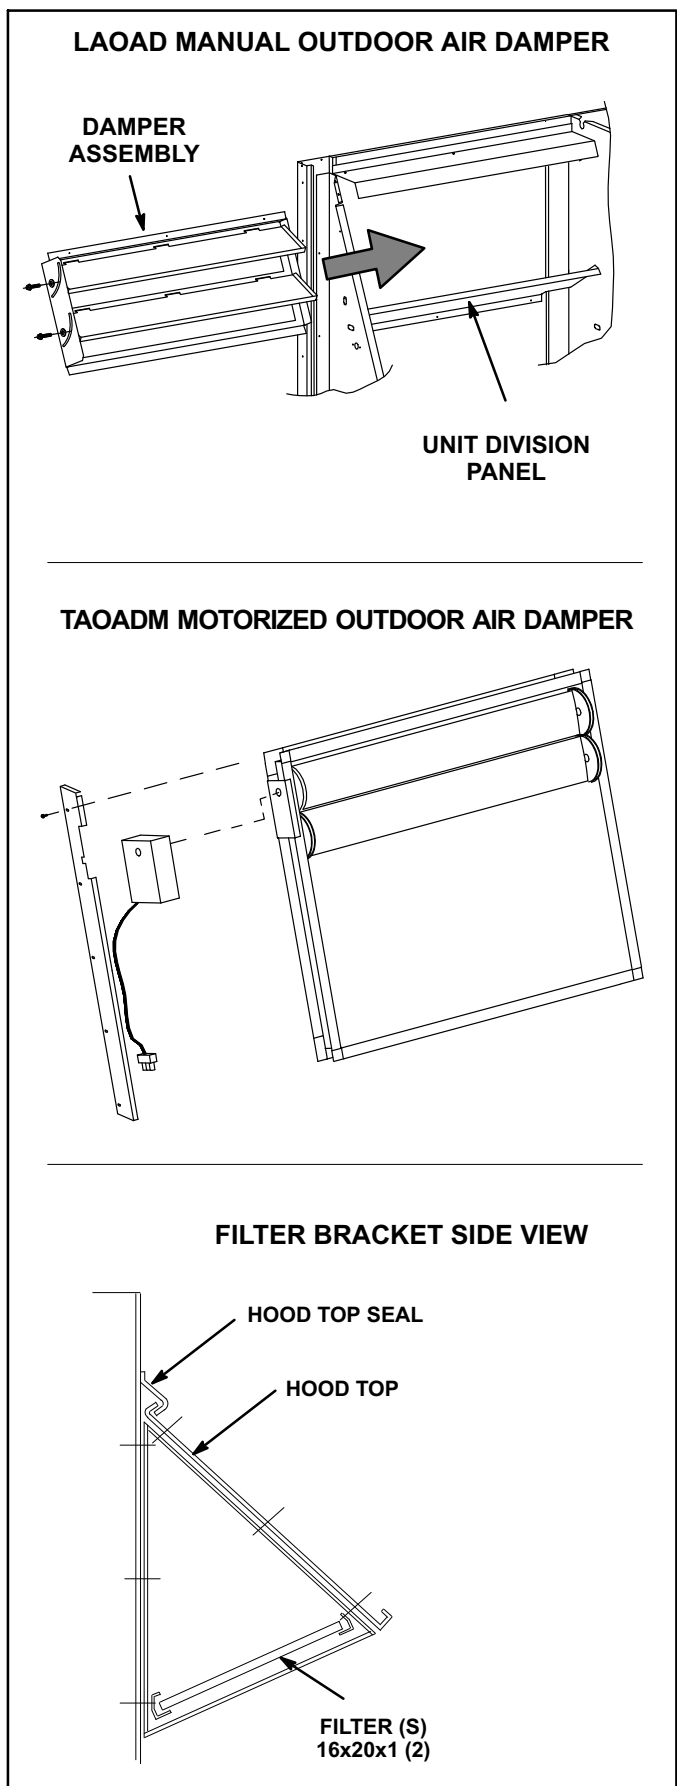

FIGURE 20
TAOADM and LAOAD10/15 consists of dampers which may be manually or motor (M) operated to allow up to 25 percent outside air into the system at all times (see figure 20). Washable filters supplied with the outdoor air dampers can be cleaned with water and a mild detergent. It should be sprayed with Filter Handicoater when dry prior to reinstallation. Filter Handicoater is R.P. Products coating no. 418 and is available as Lennox Part No. P-8-5069.